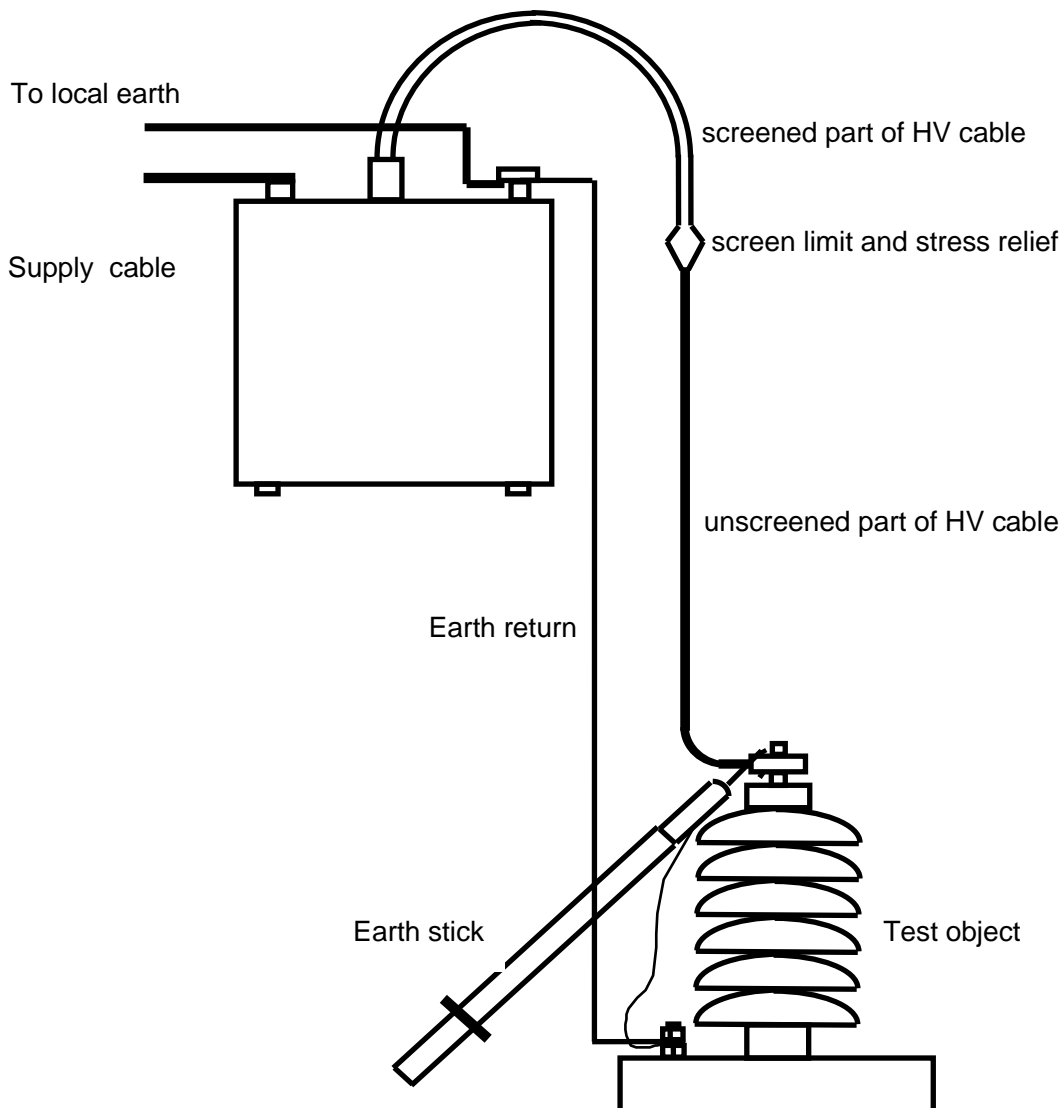

Figure 2 Connection showing earthed test object – before start of test
2.2 Connections (See Figure 2)